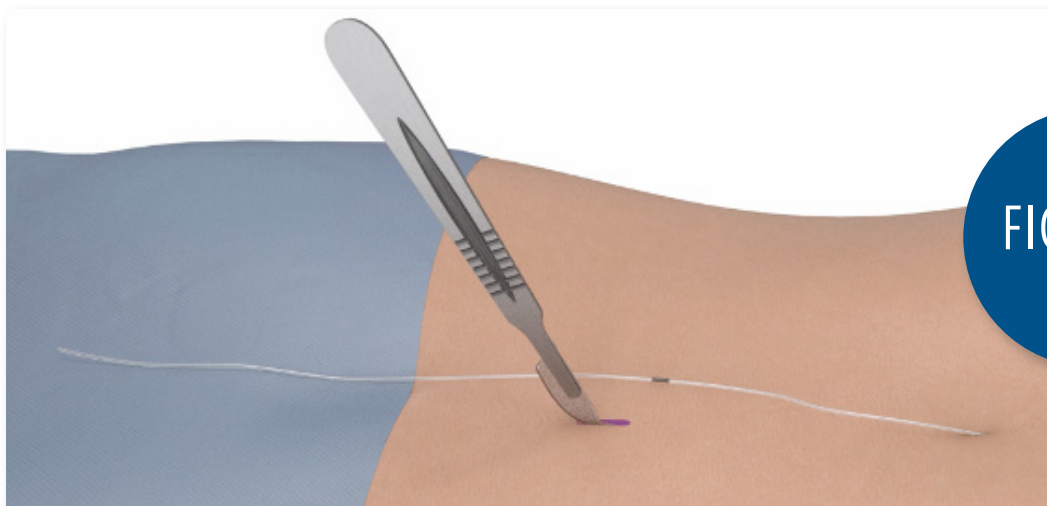

FIGURE 4
- + **STEP 2:** After administering local anesthetic, make a 2-inch vertical incision (see Figure 4) for the Receiver subcutaneous pocket.